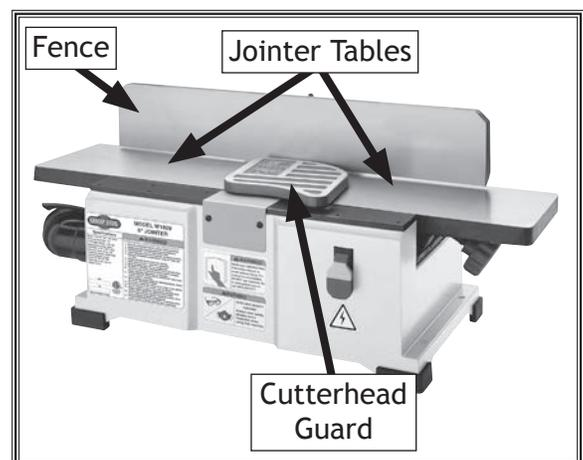

Figure 15. Fence positioned over the jointer tables.
- Slide the fence forward until it contacts the cutterhead guard and the cutterhead guard completely covers the cutterhead, as shown in **Figure 15**.